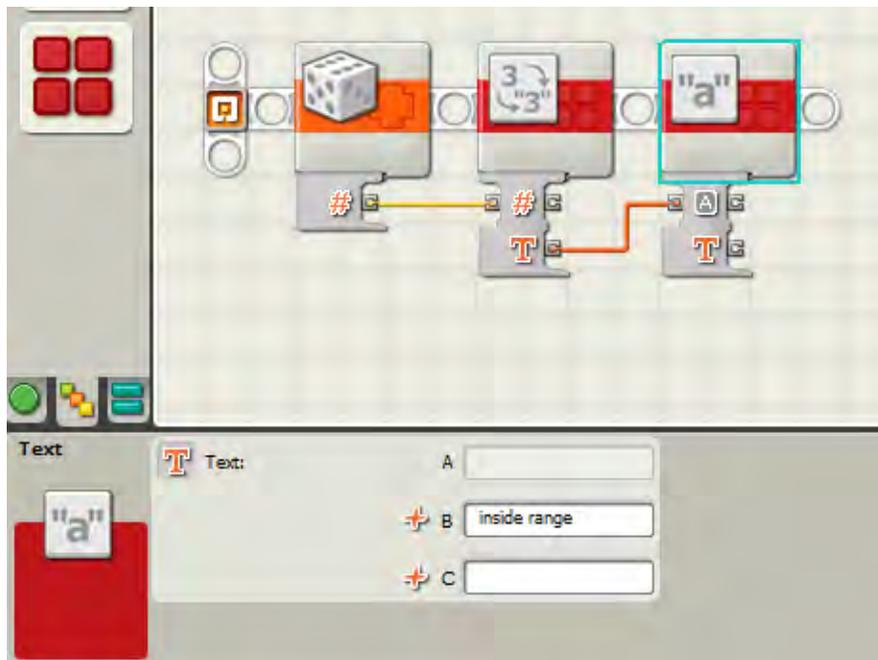

Figure 16-3. Create a text statement to be displayed on the LCD screen.
Next, I'll add a TEXT block to create a statement in the form of "A inside range 40 and 60," as shown in Figure 16-3.
In Figure 16-3, the RANDOM block number is used as input to the NUMBER TO TEXT block. The TEXT block then takes this bit of text (A) and combines it with the statement “inside range.”